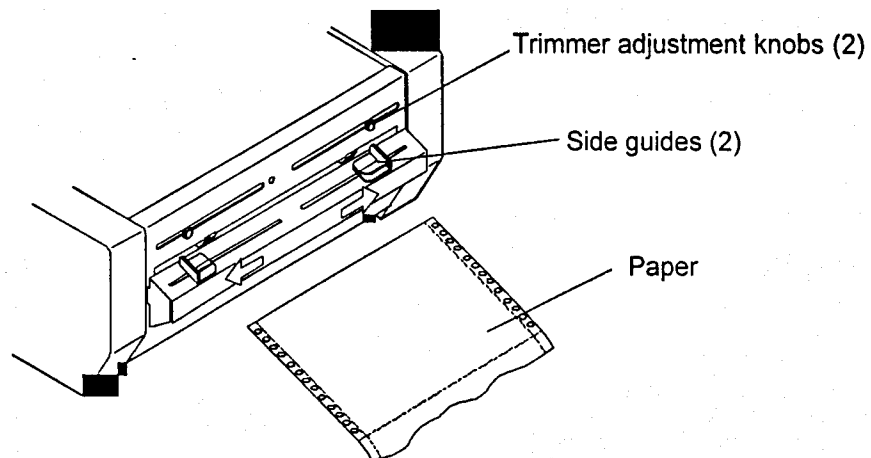

FIG. 2
- 2.2 Referring to Fig. 2 above, adjust the side guides to suit the width of the paper, feed paper into the guides and adjust the trimmers so the trim indicator is slightly inboard of the tractor hole perforations. Ensure that the adjustment knobs are tight when setting is complete.